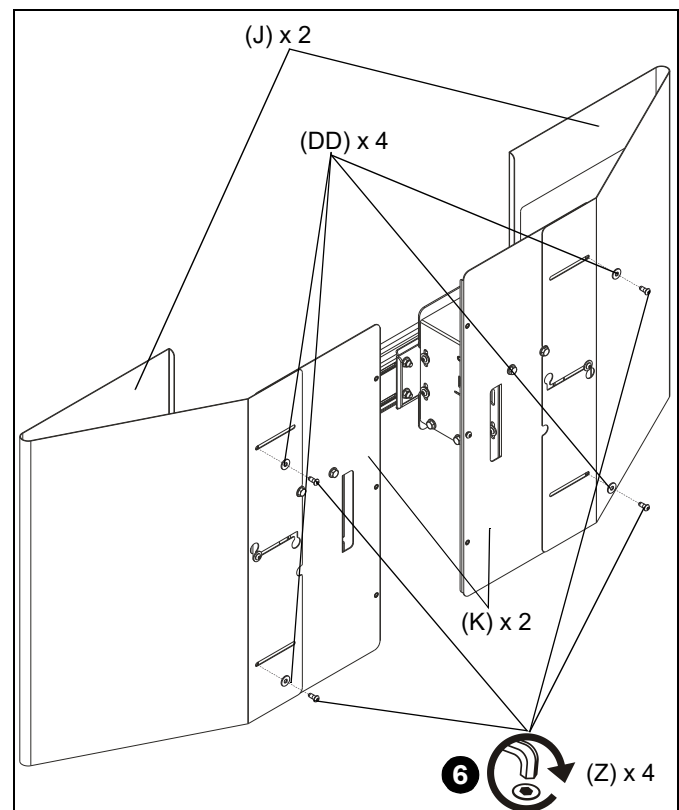

Figure 12
- Use four 1/4-20 x 5/8" button head cap screws (Z) and four 1/4" washers (DD) to secure two side wind shields (J) to two center wind shields (K). (See Figure 12)
- Tighten all six screws (Z).